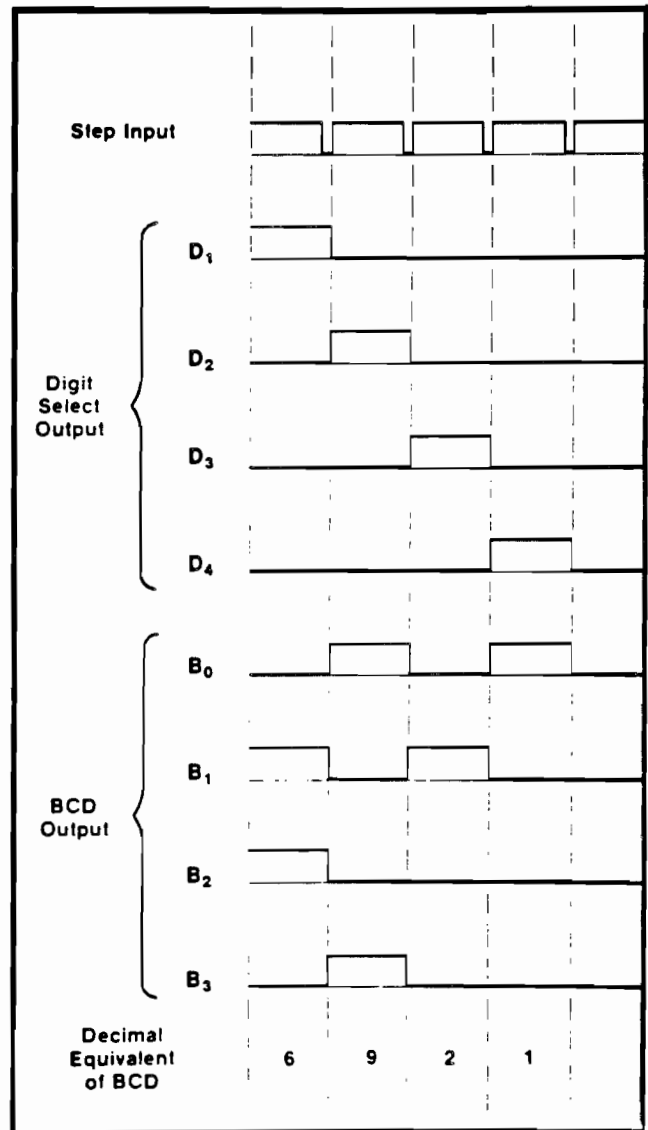

Fig. 3-3a. Time relationship of the pulses from U635. (SN B250000 & above).
Fig. 3-3a shows the time relationship of the U635 Decade Counter data output pulses, and illustrates the signals producing a readout of 1296 on the LED display. Pulses to the Step input of U636 drive the internal scanner circuit (at 1/100 of the clock frequency), causing high levels to be produced sequentially at digit selected outputs D₁, D₂, D₃, D₄ and simultaneously producing the corresponding BCD signal at B₀, B₁, B₂, and B₃. For example, while the least significant digit select output D₁ is high, outputs B₀ and B₃ are low, and B₁ and B₂ high, producing a binary coded decimal (BCD) output equivalent to number 6. This binary (0110) signal is encoded by U668 into a seven-segment driving signal for U665. To produce a 6 in the least significant position of the LED display, two conditions are met. The input signals to U665 are high at A, C, D, E, F, and G, and low at B; second, the high level at D₁ turns on Q637 providing a low at pin 7 of U665. This provides a current path to ground for the light-emitting-diodes, which forms the number 6 on the LED display. Other digits are displayed in a similar manner.
b. ADJUST - DVM Zero control R644 (Fig. 3-3a) carefully so that the V_c reading decreases as R644 is turned counterclockwise, stopping exactly where the V_c reading changes from 0.001 to 0.000. When properly adjusted, the V_c reading should alternate between 0.000 and 0.001.